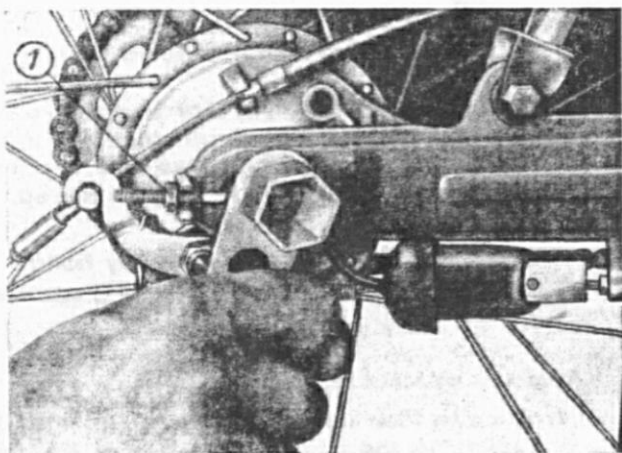

Fig. 21: Unscrewing the stub-axle lock nut of rear wheel
1. Unscrew lock nut of stub-axle (on the right, looking in the direction of riding) by means of spark plug wrench (Fig. 21).
1. Loosen lock nut of stub-axle (Fig. 21).